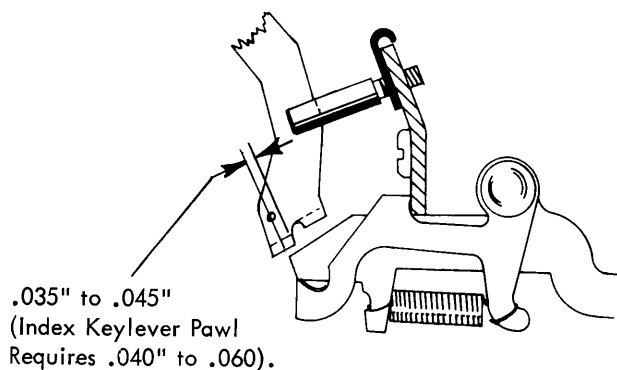

FIGURE 104. Keylever Pawl Overlap Adjustment
1. Keylever Pawl Overlap - Adjust each keylever pawl guide stud so that all the keylever pawls, except the index keylever pawl, overlap their respective interposers by .035" to .045" with both parts at rest (Fig. 104). The index keylever pawl guide should be adjusted for .040" to .050" overlap. The overlap insures proper repeat/non-repeat action.